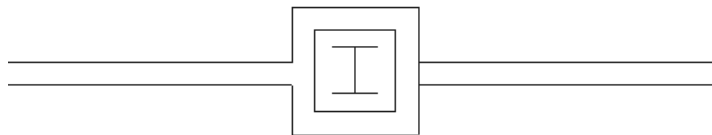

Figure 7-78
6. Which of the following are potential differences between the column surround wall and the associated walls, as shown in Figure 7-78? (Select all that apply.)